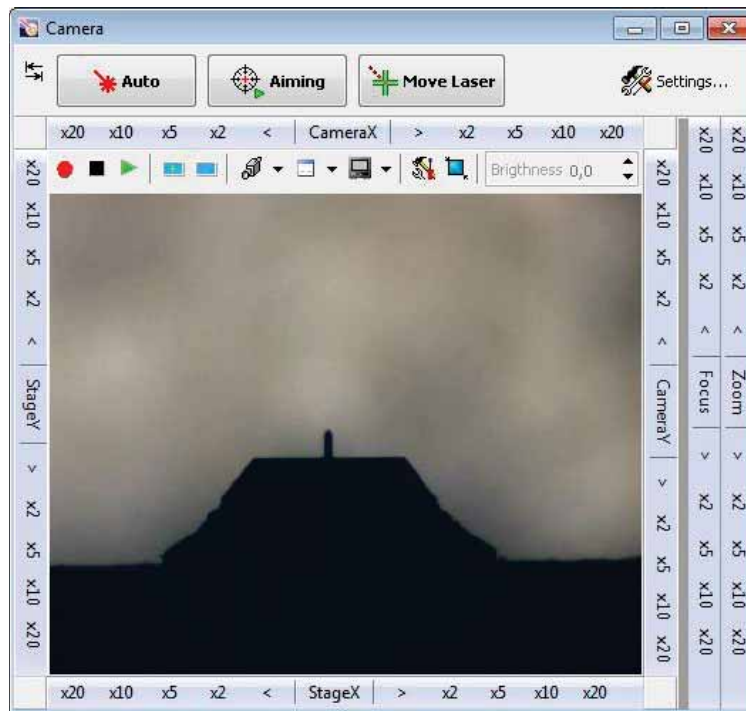

Fig. 7-2. Camera
3. Open the videoimage window by clicking the  button. Activate viewing by clicking the  button. The window will display an image of the probe (Fig. 7-2).
1. Using controls of the panels **CameraX** and **CameraY**, reposition the videomicroscope so that the cantilever edge is viewed at the center of the video frame (Fig. 7-2).